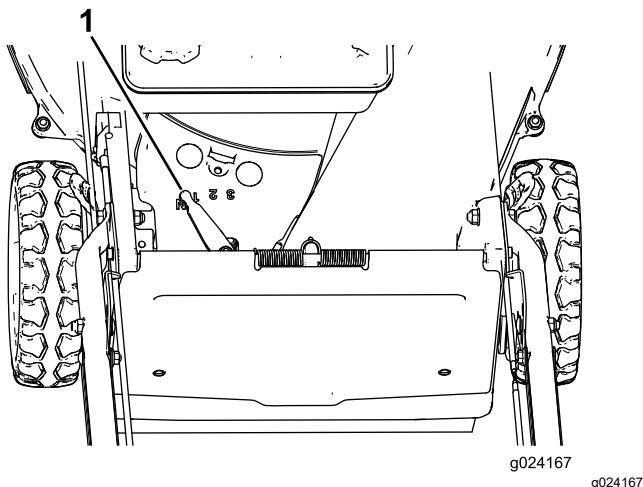

Figure 16
This machine has 3 ground speeds: 1 (slow), 2 (medium), and 3 (fast); it also has a Neutral (N) position. The self-propel-drive lever is located below and behind the fuel tank (Figure 16).